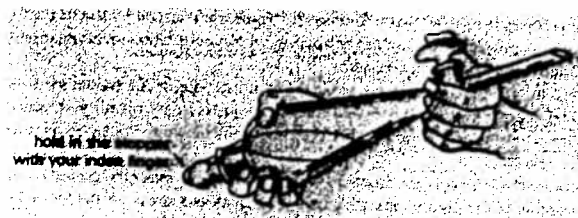

Figure 2
3. Insert the stopper, lift it out of the ring, and invert the funnel holding the stopper with one hand and the stopcock with the other (see figure 2).